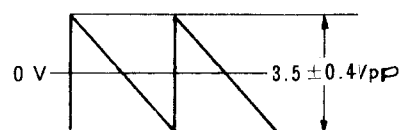

Fig. 6-2
- When LFO selector switch (PSW22) is set at " \ / ", sawtooth waves of $100 \pm 2\text{Hz}$ should develop. When LFO SPEED is set at S, $0.3 \pm_{0.2}^{0.5}\text{Hz}$ should be read. At this time the waveform should appear as in Fig. 6-2.